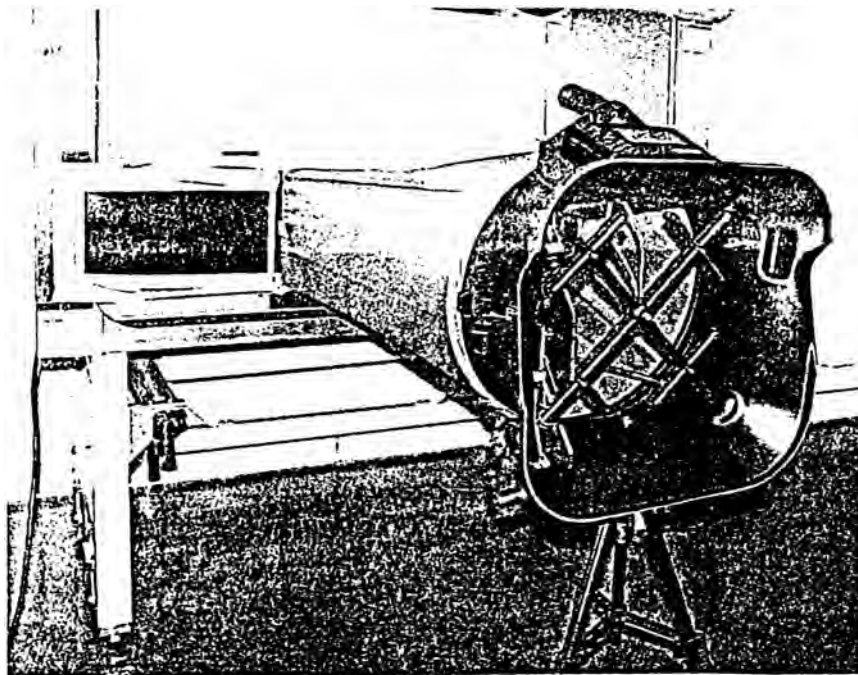

Figure 26: Adjust Height and Position of Telescopic Stand
5. Adjust the height and position of the telescopic stand so that the bottom part of the hood frame rests against the cabinet opening, and the EBT Balometer is horizontal to the cabinet (see Figure 26).